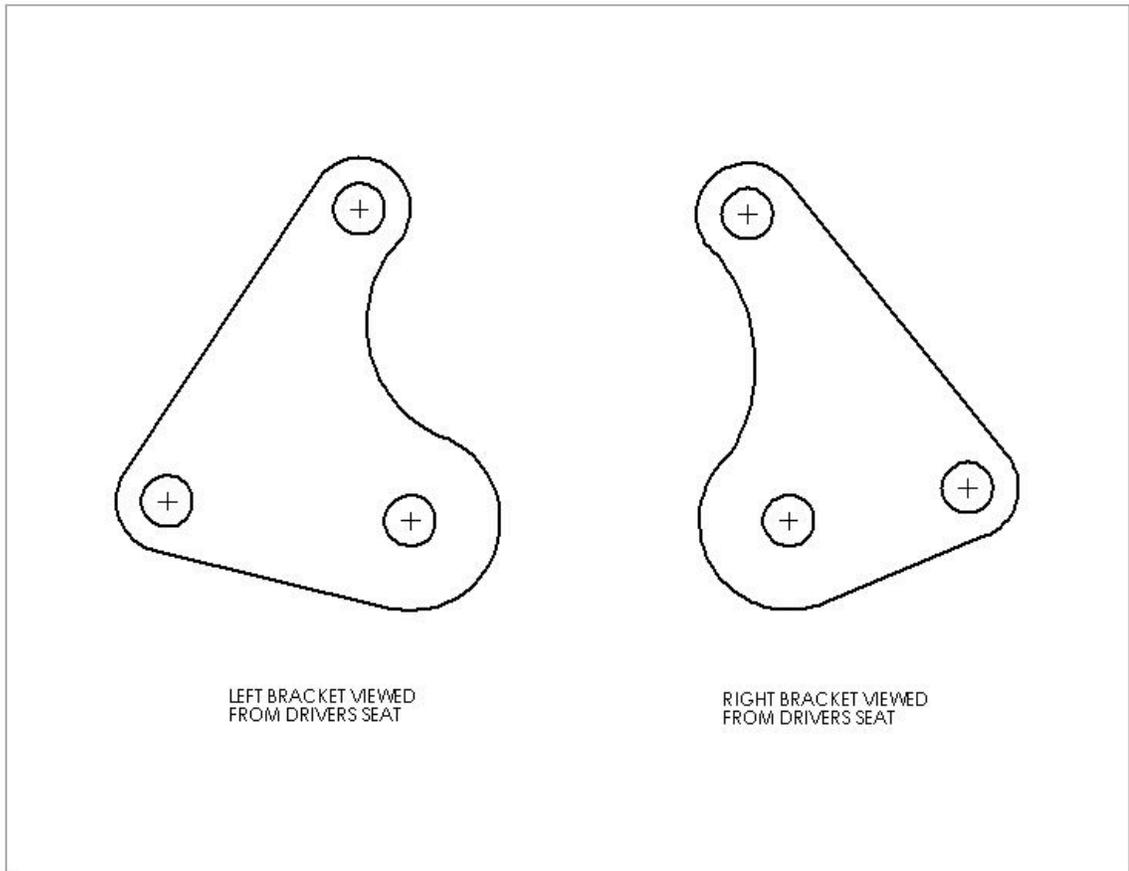

Figure 1. Bracket layout.
- 2) Using the new hardware and rack bushings, mount the right and left rack brackets (view right and left from sitting in the driver's seat) to the rack first. Leave the nuts and bolts snug, but not tight, so the brackets can be rotated. See figures 1 and 2.